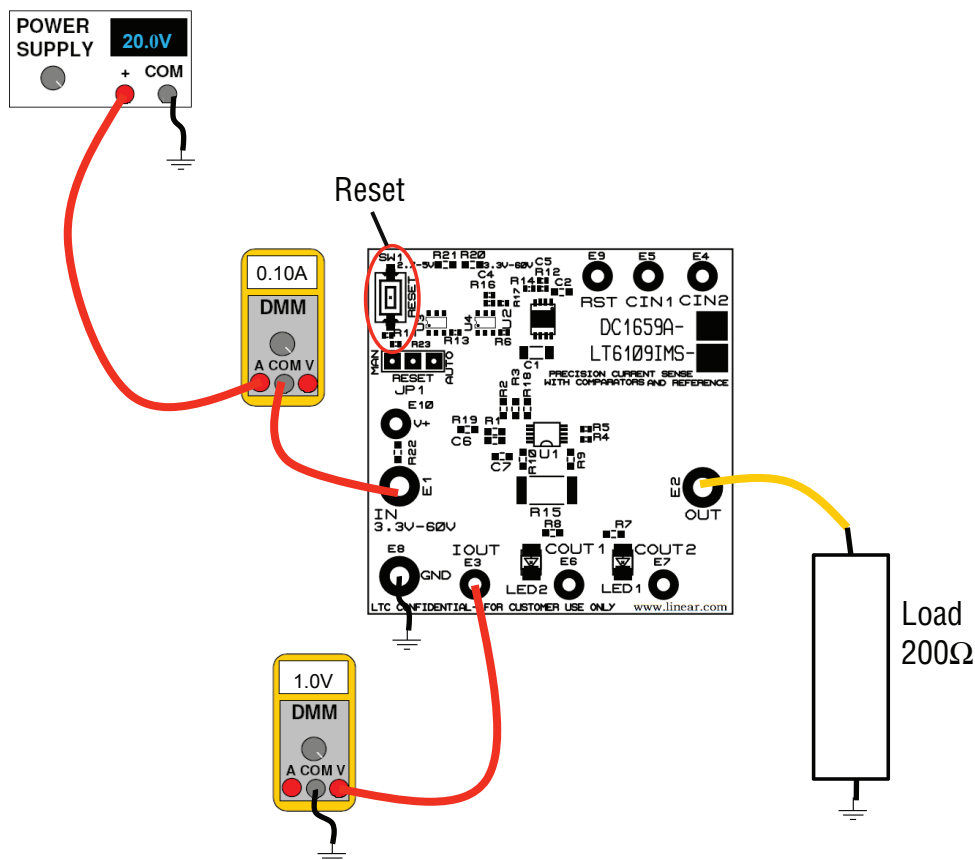

Figure 1. Test Setup
The DC1659A provides a simple way to evaluate the performance of the LT6109. Refer to Figure 1 for proper measurement equipment setup and follow the procedure below:
1. With the power off, connect the power supply positive to IN and the common to GND. With default board settings the supply can range from 3.3V to 60V. If the supply does not have an accurate current readout, a DMM may be connected in series with the supply as shown in Figure 1.
4. Turn on the power supply. The comparators start in an unknown state and must be reset. This can be done by pressing the reset button. With the load shown in Figure 1 the comparator outputs should be: